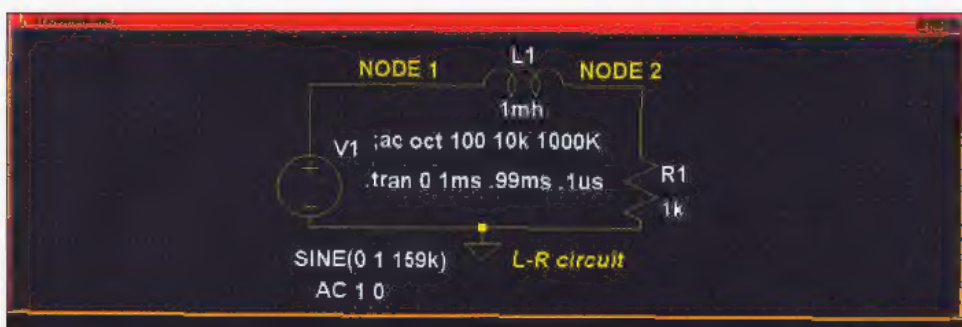

FIGURE 3
Figure 3 is an L-R circuit to be analyzed, first is a SPICE transient analysis using a sine wave source of 159 kHz. The reactance of the 1 mH inductor is equal to the 1K ohm resistor at 159 kHz, so we would expect the response to be down 3 dB (.707). Figure 4 is a plot of the source (node 1) and the voltage across R1 (node 2).
Second, a SPICE frequency sweep (AC) analysis is run from 10 kHz to 1 MHz. The result is in Figure 3. Note that the output at node 1 is nearly equal to the input at 10 kHz because the reactance of L1 is low. At 159 kHz, the output is down 3 dB and
Figure 4 is the R-C low pass circuit. The AC analysis in SPICE will be identical to the L-R circuit (Figure 3), because the resistance of $R1$ is small compared to the reactance of $C1$ at 10 kHz. As the frequency
Figure 6 is the R-C low pass circuit. The AC analysis in SPICE will be identical to the L-R circuit (Figure 3) because the resistance of $R1$ is small compared to the reactance of $C1$ at 10 kHz. As the frequency increases, the reactance of $C1$ decreases, causing the output (node 2) to decrease.